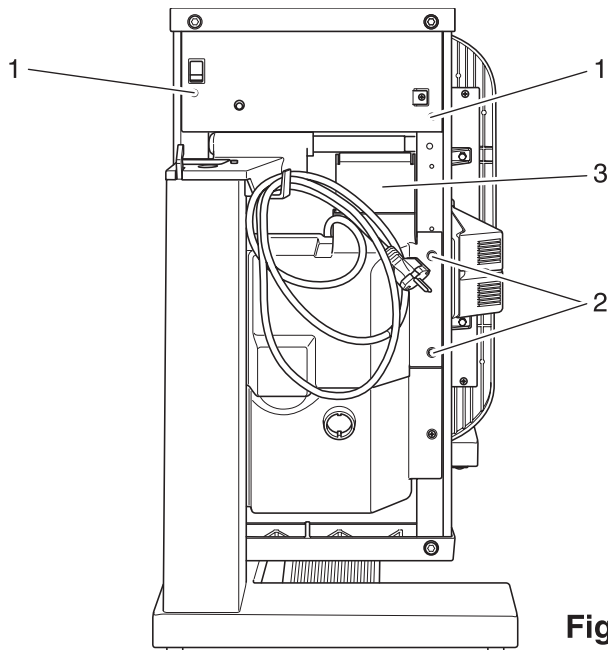

Fig. 13h
- Fit cable sleeve 3 (fig. 13h).
- Set up the steam ironer in a working position and tilt it over (fig. 13h).